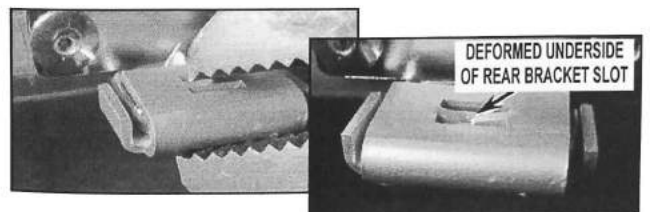

FIGURE 11
- Secure the bracket on the tab by deforming the underside of the rear bracket slot. See Figure 11.